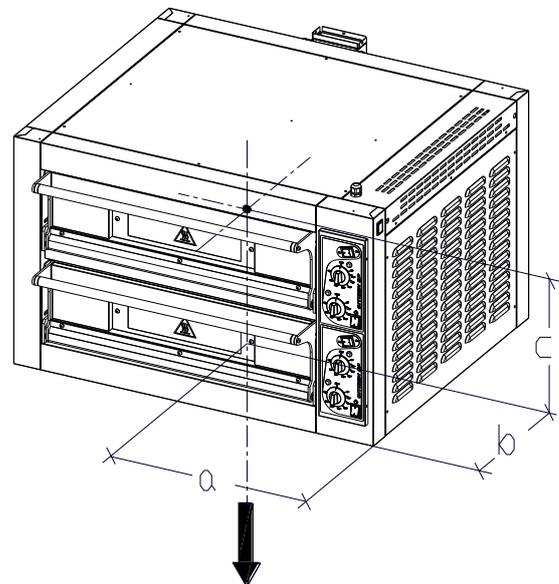

Figure 4.2. Centre of gravity
**⚠ In any case, to avoid unforeseen movements, take note of the position of the centre of gravity (Figure 4.2. and table 4.1.).**